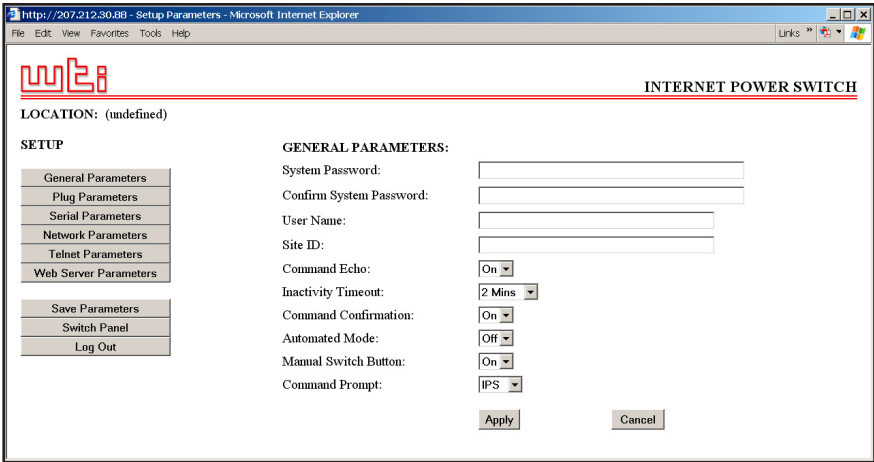

Figure 5.3: General Parameters Menu - Web Browser Interface
- **Web Browser Interface:** Click the "Setup" button to access the Setup Menus, and then click the "General Parameters" button. The General Parameters Menu will be displayed as shown in Figure 5.3.